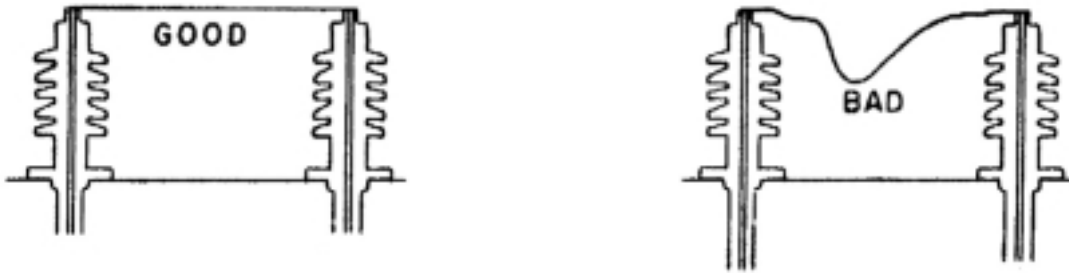

FIGURE 5
6. Short the high voltage bushings with a bare braided jumper. The jumper should not be allowed to sag (Figure 5).
7. Short the low voltage bushings as in (Figure 5).